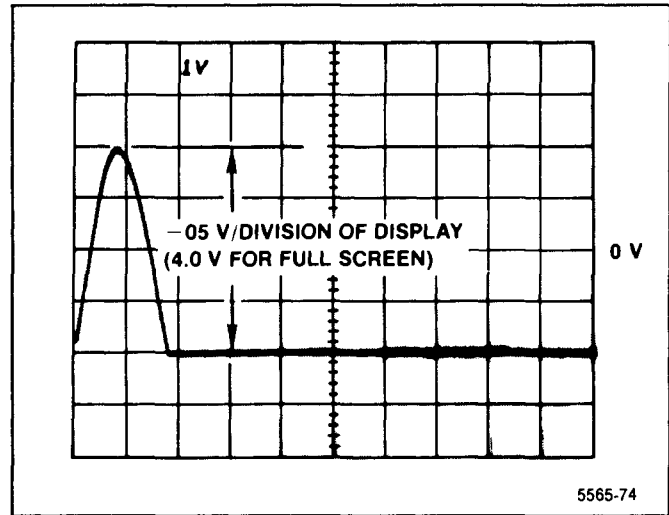

Figure 4-21. Test oscilloscope display of VERT output with a full screen display on the Spectrum Analyzer.
e. Check that the amplitude of the VERT OUTPUT signal is 4 V peak-to-peak ± 0.2 V centered around 0 Vdc as displayed on the test oscilloscope. See Figure 4-21.